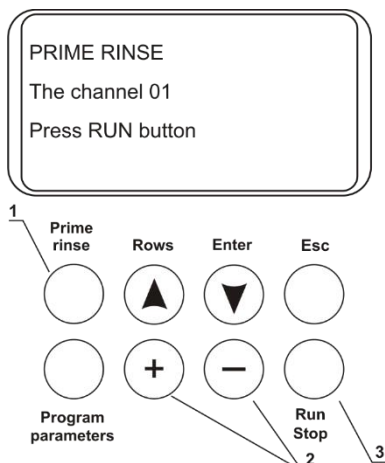

Figure 11. System rinse
- 6.2. Press **Prime rinse** (fig. 11/1), display shows "PRIME RINSE, the channel 01". Select the correct channel with using **+** and **-** (fig. 11/2). Press **Run/Stop** (fig. 11/3) key and the system will perform rinsing cycle. Repeat the procedure twice, if necessary.